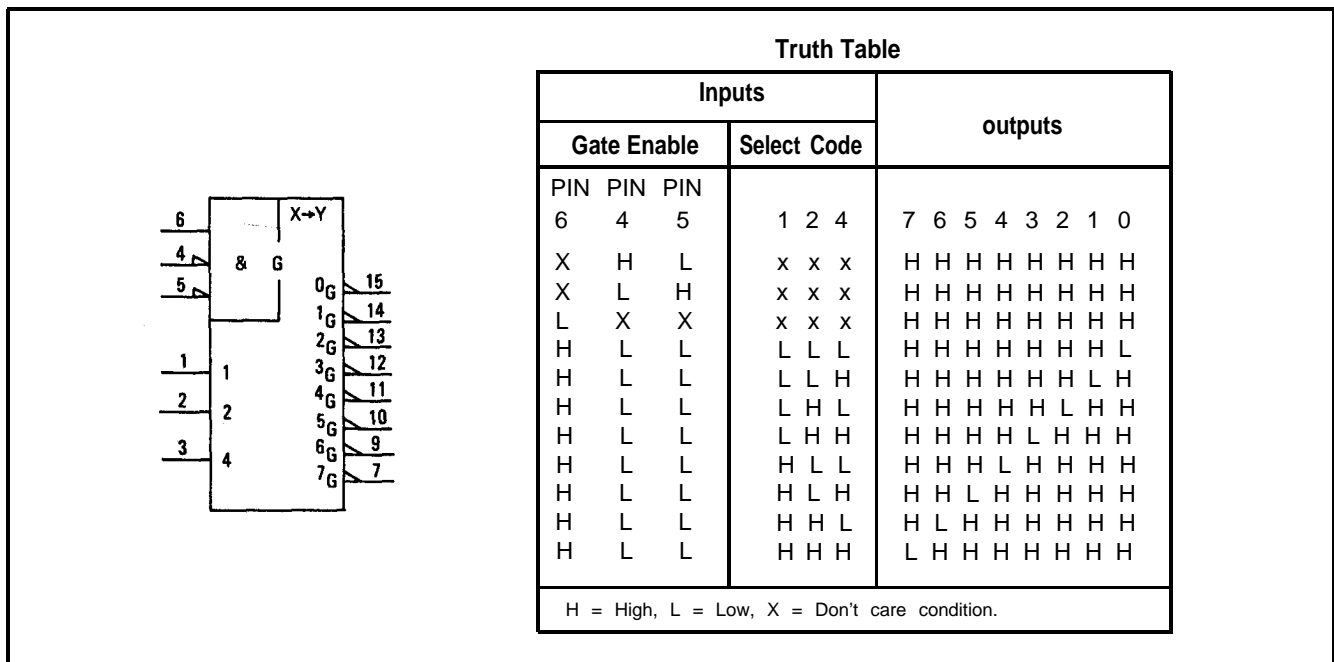

Figure 8-9. 3-Line to 8-Line Decoder
**8-46. Decoder.** There are two types of decoders used in the Power Meter: a 3-line to 8-line and a 4-line to 16-line decoder. Operation of both decoders is identical except for the number of input and output lines. Therefore only the operation of the 3-line to 8-line decoder is shown in the truth table in Figure 8-9.